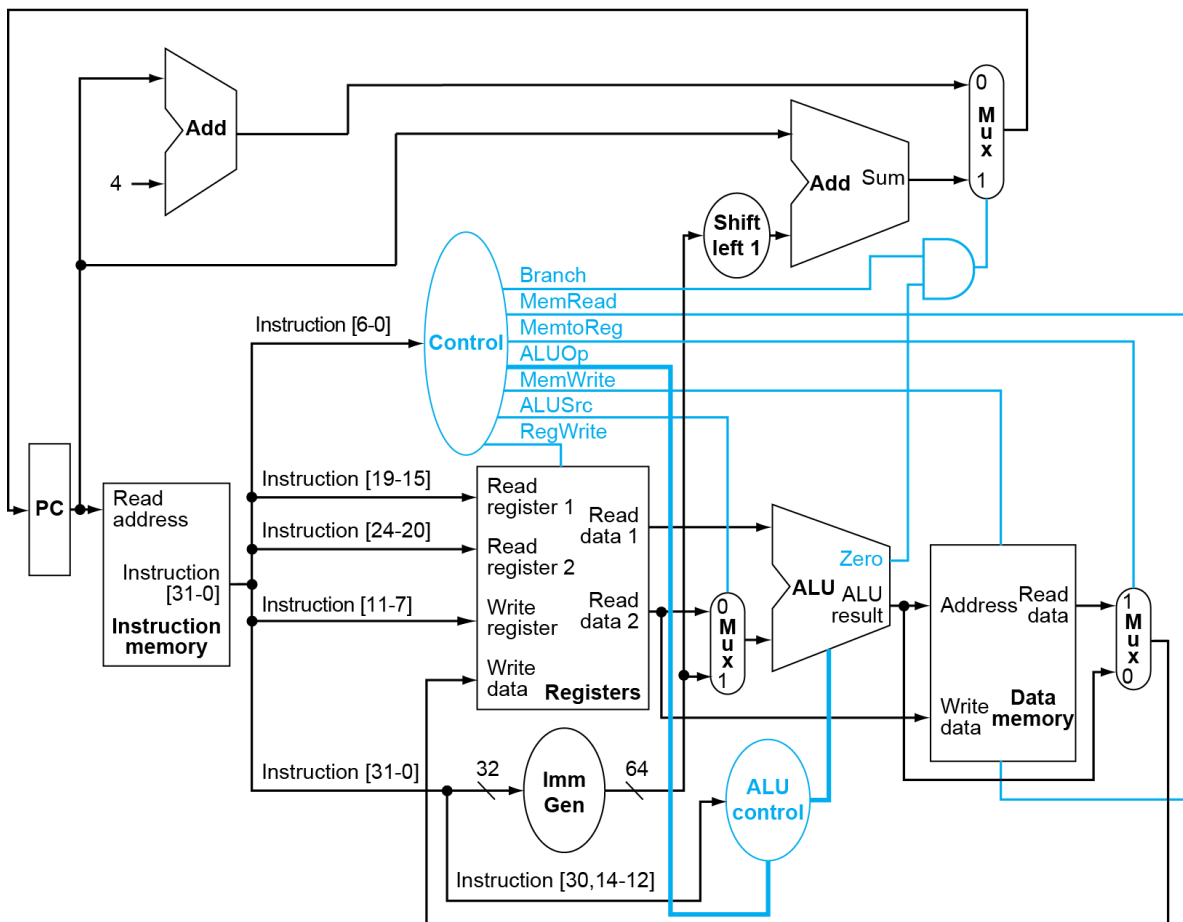

Figure 1. RISC-V single-cycle processor
2. For the single-cycle processor design, we do *NOT* consider I-type instructions such as `addi` and `andi`. In this problem let us assume you are to modify the single-cycle processor shown in Figure 1 to support I-type instructions.
(a) What additional logic blocks, if any, are needed to add I-type instructions to the single-cycle processor shown in Figure 1? List any required logic blocks and explain their purpose. [5]
3. Let us assume that the clock period of the single-cycle processor shown in Figure 1 is 1000 ps. Consider the addition of a multiplier to the CPU. This addition will add 250 ps to the latency of the ALU, but will reduce the number of instructions by 4% (because there will no longer be a need to emulate the multiply instructions).
4. Let us assume that you are requested to add a new instructions, `lwi.d rd, rs1, rs2` ("load with increment") to RISC-V. Explain how to figure out control signals of the single-cycle processor shown in Figure 1. [10]